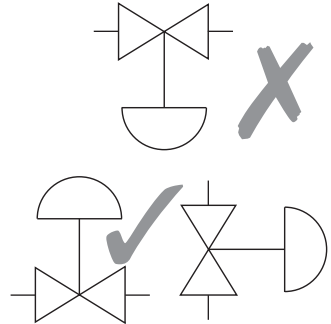

Fig. 4
- 3.3** Determine the correct installation situation and the direction of fluid flow. The valve should preferably be installed along a horizontal pipeline with the valve mounted above the pipe (see Figure 4). When mounting an actuator to the valve body, the actuator Installation and Maintenance Instructions must be followed.